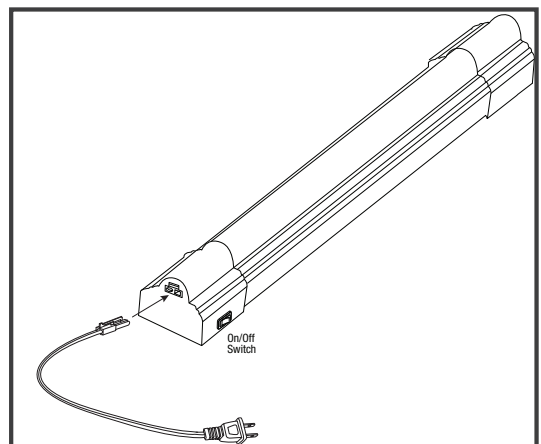

Figure 3
Step 4: Connect Power Cord: Connect 5' Power Cord to the fixture. See Figure 3. Plug in Power Cord to a 15A circuit grounded outlet. Light may be turned on or off using the toggle switch built into the cord. **Warning: Do not conceal power supply cord inside a wall, ceiling, soffit, kitchen cabinet, or similar permanent structure. Do not run the power supply cord through holes in walls, ceilings or floors.**